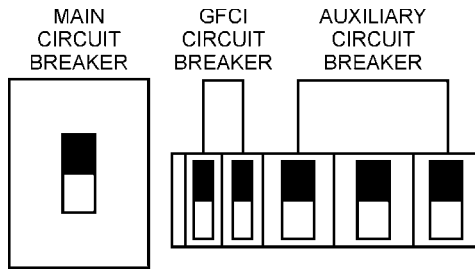

Figure 51. Main, Aux. and GFCI Circuit Breakers (ON)
13. Place the **main, GFCI, and aux.** circuit breakers in the **ON** position (Figure 51).